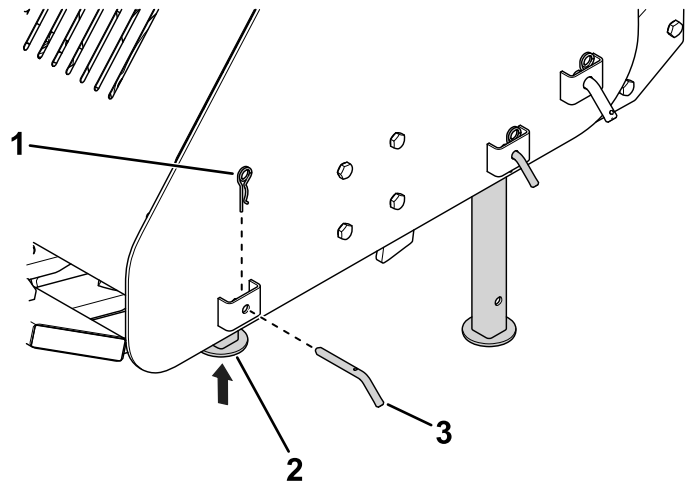

**Figure 9**
1. Connect the upper link arm to the bracket and secure it with the link pin and the hairpin cotter (Figure 9).